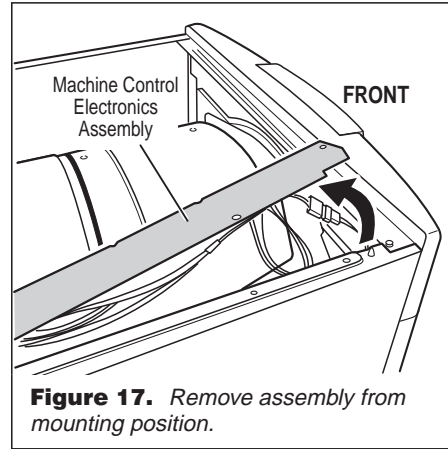

Figure 17. Remove assembly from mounting position.
1. After locating the machine control electronics, remove the three screws that hold the machine control bracket in place and remove assembly. See figure 17.